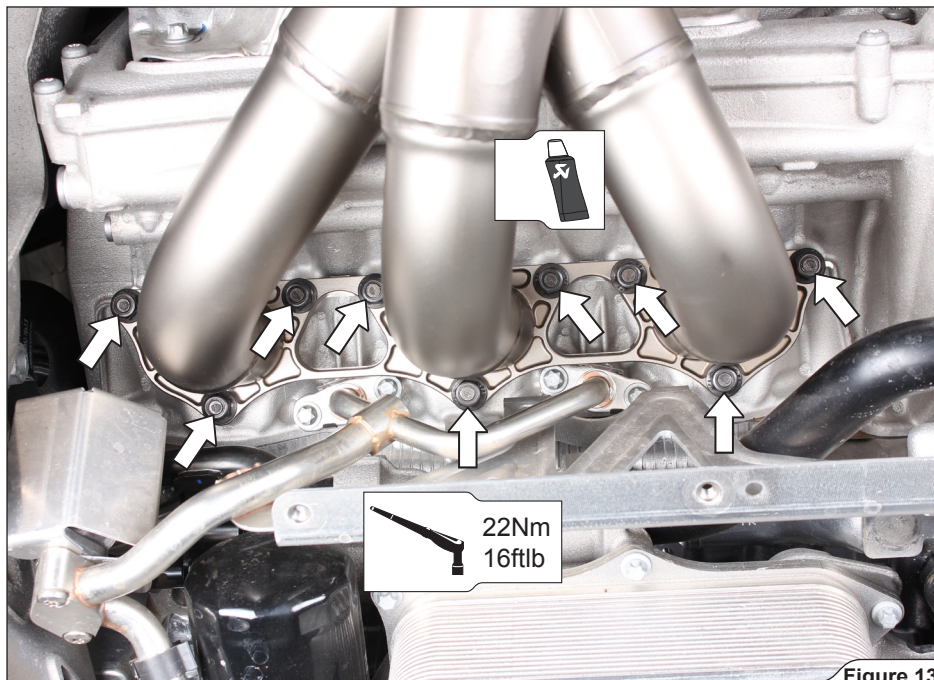

Figure 13
1. Set left and right Akrapovič headers with new stock gaskets and hand tighten with all stock nuts first. Tighten nuts to a specified torque using criss-cross pattern in three steps (**Figure 13**).